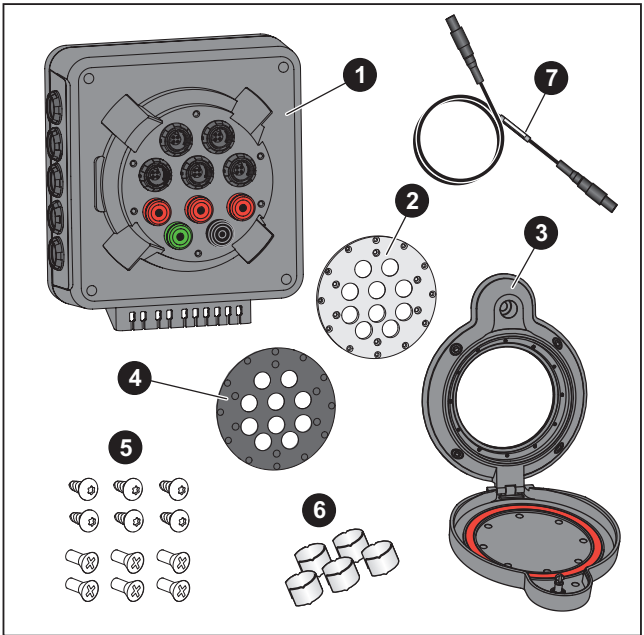

Figure 1. PQ Window Parts
Unpack the Product when it arrives. See Figure 1. Identify and make sure all the parts are in the shipment:
4. On the current test leads, apply cable marker 1 from the set (see Figure 1, item 6) on both ends of the cable for phase A/L1. Continue with marker 2 for phase B/L2, and marker 3 for phase C/L3 and N and Earth/Ground.